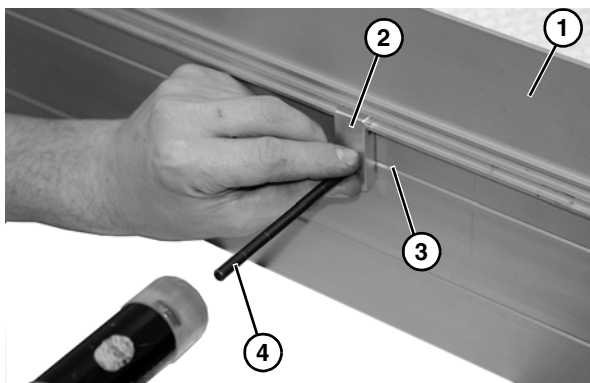

**Figure 14**
3. Hand tighten the screws to secure (**Figure 14**). Recommended torque is 150 in-lb (17 Nm).